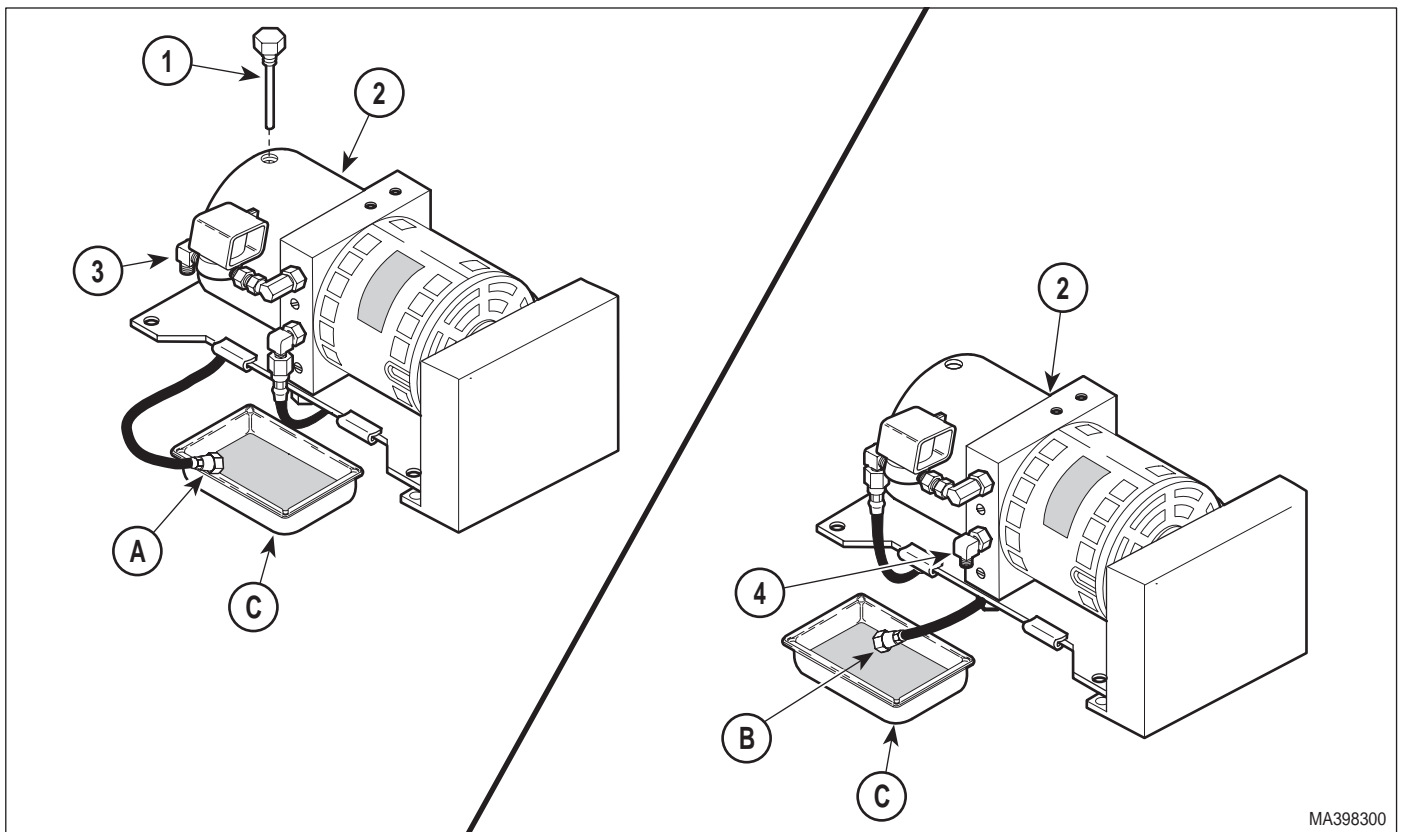

Figure 4-32. Hydraulic System Flushing Procedure
- (1) Lower TABLE DOWN, BACK DOWN, TILT DOWN, and FOOT DOWN functions all the way down.
- (2) Remove motor cover assembly (Refer to para 4.2).
- (3) Remove filler cap (1, Figure 4-32) from reservoir (2).
- (4) Get a suitable drain pan with a capacity of approximately 2 quarts (1.9 liters).
- (5) Using a syringe or suction device, remove all oil from the reservoir (2).
- (6) Refill reservoir (2) with light grade mineral oil.
- (7) Disconnect hose (A) from down functions shuttle valve (3) and place end of hose in drain pan.
- (8) Raise TABLE UP, BACK UP, TILT UP, and FOOT UP functions all the way up, while making sure to keep refilling reservoir (2) with light grade mineral oil as necessary.
- (9) Connect hose (A) to down functions shuttle valve (3).
- (10) Disconnect hose (B) from up functions shuttle valve (4) and place end of hose in drain pan.
- (11) Lower TABLE DOWN, BACK DOWN, TILT DOWN, and FOOT DOWN functions all the way down, while making sure to keep refilling reservoir (2) with light grade mineral oil as necessary.
- (12) Connect hose (B) to up functions shuttle valve (4).
- (13) Repeat steps 7 thru 12 until oil being removed is clear and contains no dirt particles.